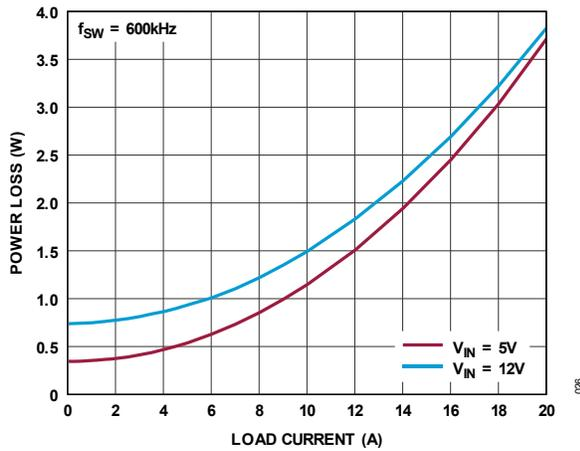
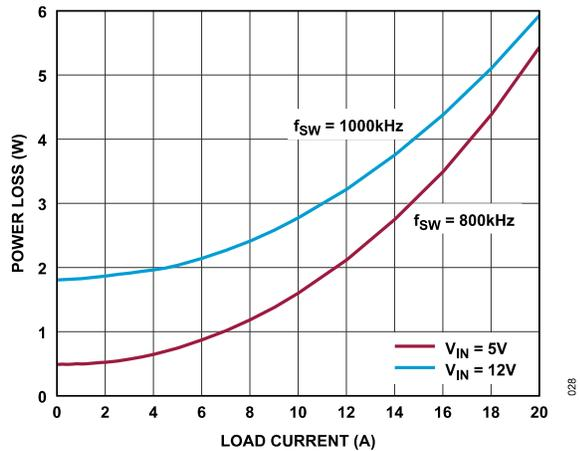
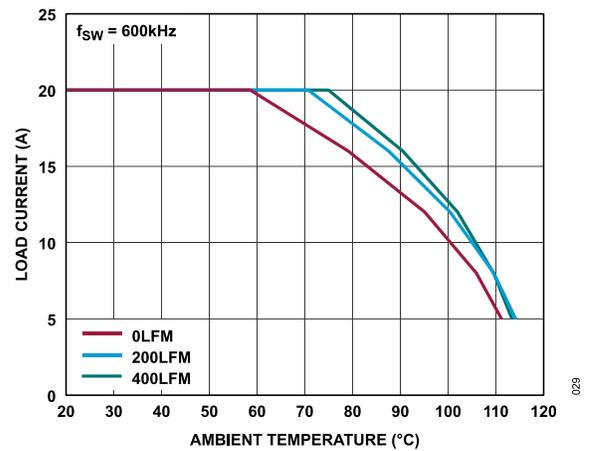
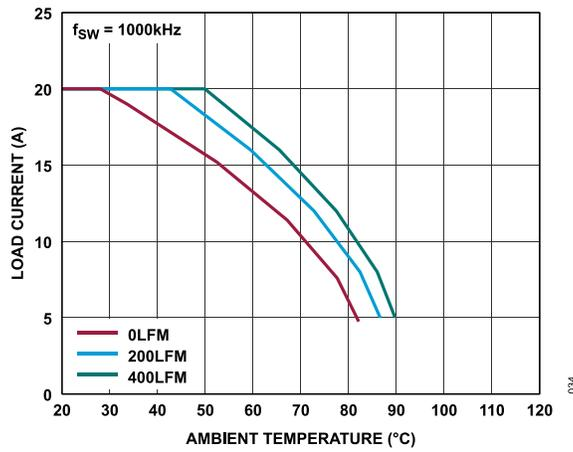

Figure 26. Power Loss at 1V Output
Figure 28. Power Loss at 3.3V Output
Figure 29. 5V to 1V Derating Curve, No Heat Sink
Figure 34. 12V to 3.3V Derating Curve, No Heat Sink
Many designers may use laboratory equipment and a test vehicle, such as an evaluation (demo) board, to anticipate the μ Module regulator's thermal performance in their application at various electrical and environmental operating conditions to complement any FEA activities. Without FEA software, the thermal resistances reported in the Pin Configurations and Function Descriptions section are, in and of themselves, not relevant to providing guidance on thermal performance; instead, the derating curves provided in Figure 29 through Figure 34 can be used in a manner that yields insight and guidance about the user's application and can be adapted to correlate thermal performance to the user's application.
simplicity—but also, not ignoring practical realities—an approach has been taken by using FEA software modeling and laboratory testing in a controlled environment chamber to reasonably define and correlate the thermal resistance values supplied in this data sheet: (1) Initially, FEA software accurately builds the mechanical geometry of the LTM4640 and the specified PCB with all of the correct material coefficients and accurate power loss source definitions; (2) this model simulates a software-defined JEDEC environment consistent with JSED5112 to predict power loss heat flow and temperature readings at different interfaces that enable the calculation of the JEDEC-defined thermal resistance values; (3) the model and FEA software evaluates the LTM4640 with heat sink and airflow; (4) having solved for and analyzed these thermal resistance values and simulated various operating conditions in the software model, a thorough laboratory evaluation replicates the simulated conditions with thermocouples within a controlled environment chamber while operating the device at the same power loss as the one which was simulated. An outcome of this process and due diligence yields the set of derating curves shown in Figure 29 through Figure 34. After these laboratory tests have been performed and correlated to the LTM4640, then the θ_{JB} and θ_{BA} are summed together to provide a value that should closely equal the θ_{JA} value because approximately 100% of power loss flows from the junction through the board into ambient with no airflow or top mounted heat sink.
The 1V, 1.5V, and 3.3V power loss curves in Figure 26 through Figure 28 can be used in coordination with the load current derating curves in Figure 29 through Figure 34 for calculating an approximate θ_{JA} thermal resistance for the LTM4640 with various airflow conditions. The power loss curves are taken at room temperature and are increased with a multiplicative factor according to the ambient temperature. This approximate factor is 1.2 for 120°C, at junction temperature. The maximum load current is achievable while increasing ambient temperature if the junction temperature is less than 120°C, which is a 5°C guard band from a maximum junction temperature of 125°C. When the ambient temperature reaches a point where the junction temperature is 120°C, then the load current is lowered to maintain the junction at 120°C, while increasing ambient temperature up to 120°C. The derating curves are plotted with the output current starting at 20A and the ambient temperature at 30°C. The output voltages are 1V, 1.5V, and 3.3V. These are chosen to include the lower and higher output voltage ranges to correlate the thermal resistance. Thermal models are derived from several temperature measurements in a controlled temperature chamber and thermal modeling analysis. The junction temperatures are monitored while ambient temperature is increased with and without airflow. The power loss increase with ambient temperature change is factored into the derating curves. The junctions are maintained at 120°C maximum while lowering output current or power with increasing ambient temperature.